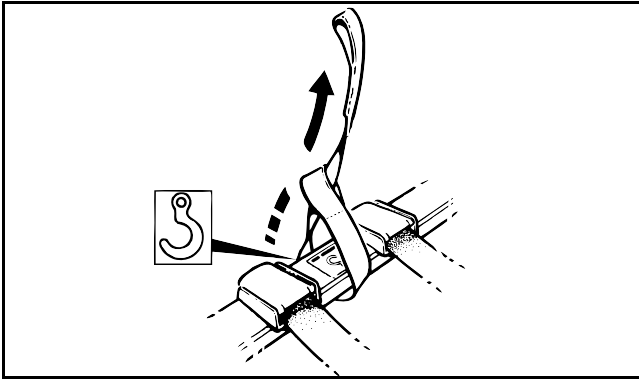

Fig. 55
**CAUTION: If they are not already attached, fix the four suspension straps in the positions indicated by labels on the side sections of the frame (see Fig. 55).**